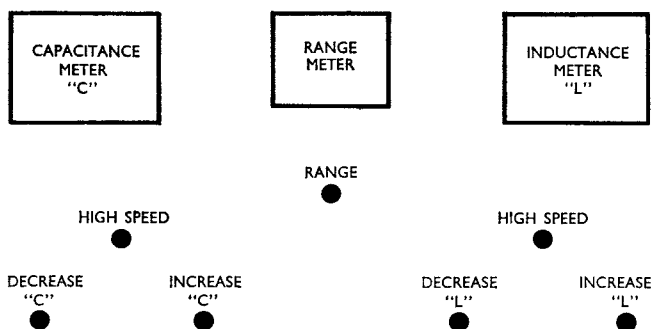

FIG. 7. LAYOUT OF AERIAL TUNING CONTROLS
Note. The following steps are carried out to produce a minimum standing wave ratio in the V.S.W.R. meter by altering the Capacitive (C) and Inductive (L) components, situated in the base tuned whip, by means of button controls which drive motors forward or in reverse and in turn alter the L and C components. The direction of the motors is indicated in the drawing (Fig. 7). It will be noted that each set (L and C) has a centre control for increasing the speed of the motors, but it is found that these are not normally necessary except in the initial setting up.